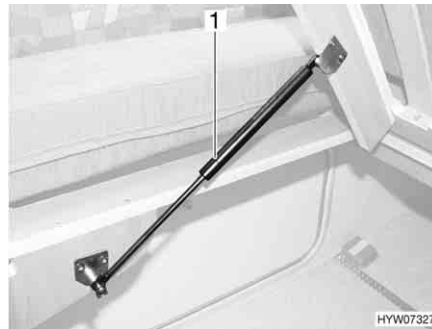

Fig. 112 Fixed bed
- Lift slatted frame. The gas-pressure springs (Fig. 112,1) hold the slatted frame open.